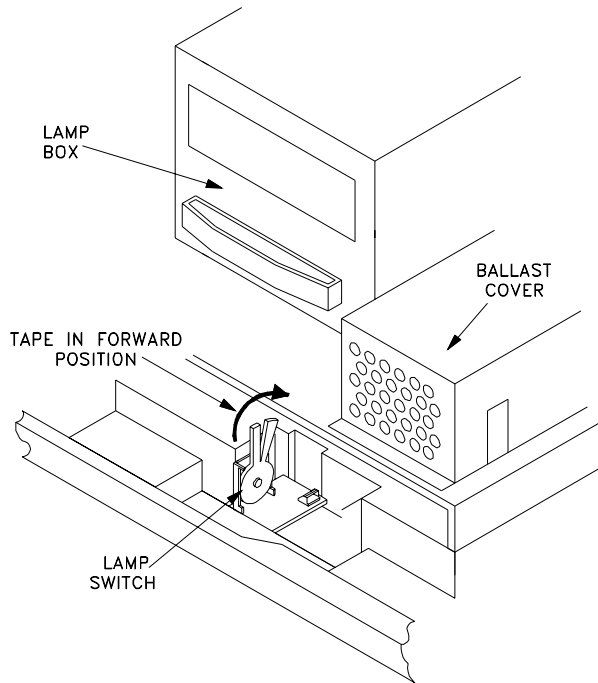

Figure 1: Lamp Switch
- 2) Tape the Lamp Switch closed (*Figure 1*)
When possible, the indication will be placed close to the part number that is screened onto the PCB (not the part label). *Figure 1* is an example of a PCB showing the display and its location.